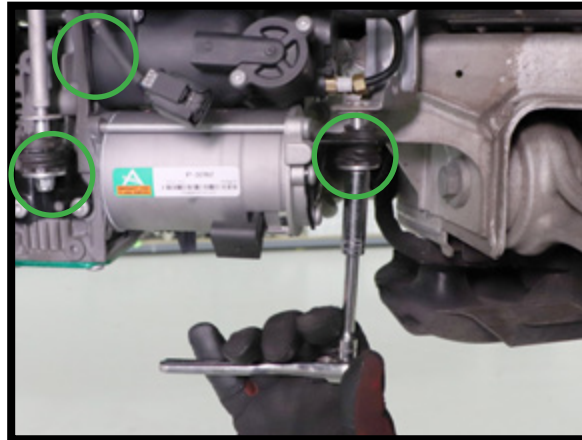

FIGURE 16
2. USING THE ARNOTT PROVIDED ISOLATORS, WASHERS, AND MOUNTING NUTS; INSTALL THE COMPRESSOR BACK ON TO THE VEHICLE IN THE CORRECT ORIENTATION. TIGHTEN THE MOUNTING NUTS TO MANUFACTURER'S SPECIFICATIONS. (FIGURE 16)